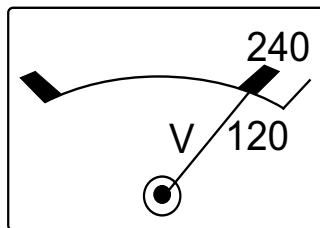

Figure 43. AC Voltmeter (120/240V)
4. Also verify that the AC voltmeter is registering a voltage reading as indicated by Figure 43.
- Verify that the AC voltmeter is registering a voltage reading as indicated by Figure 43.